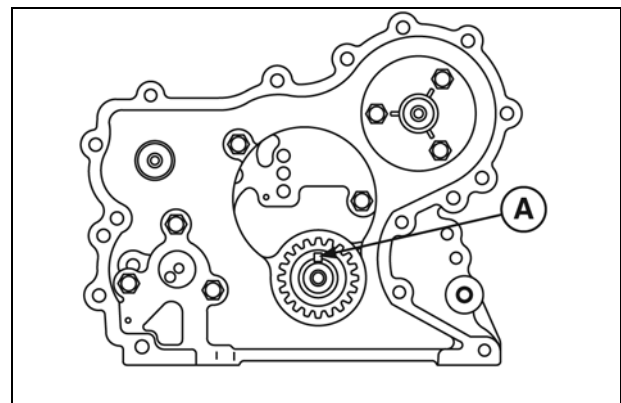

Figure 17
5. Make sure crankshaft key is at the 12 o'clock position (**A**, Figure 17).